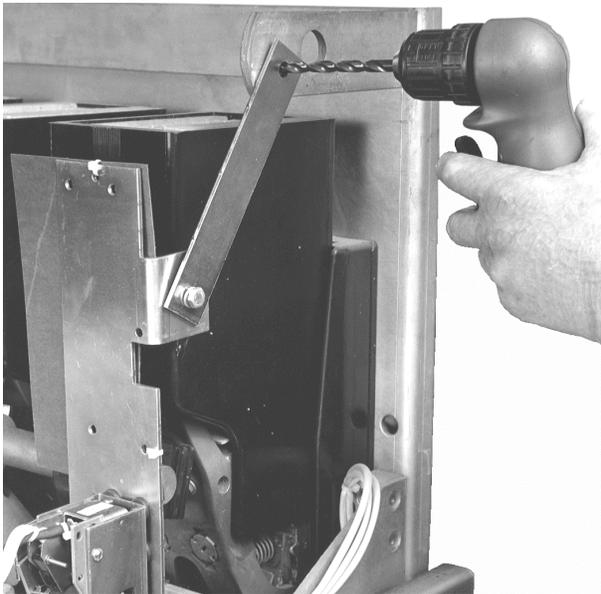

Fig 22. Drilling the flux shifter support bracket mounting hole.
2. Attach the support bracket provided to strengthen the top of the trip unit bracket with the $\frac{1}{4}$ -20 x $\frac{3}{4}$ " bolt provided, as shown in Figure 22. Use the bracket as a template to locate the position in the breaker frame to drill a hole to accommodate a $\frac{1}{4}$ " bolt.